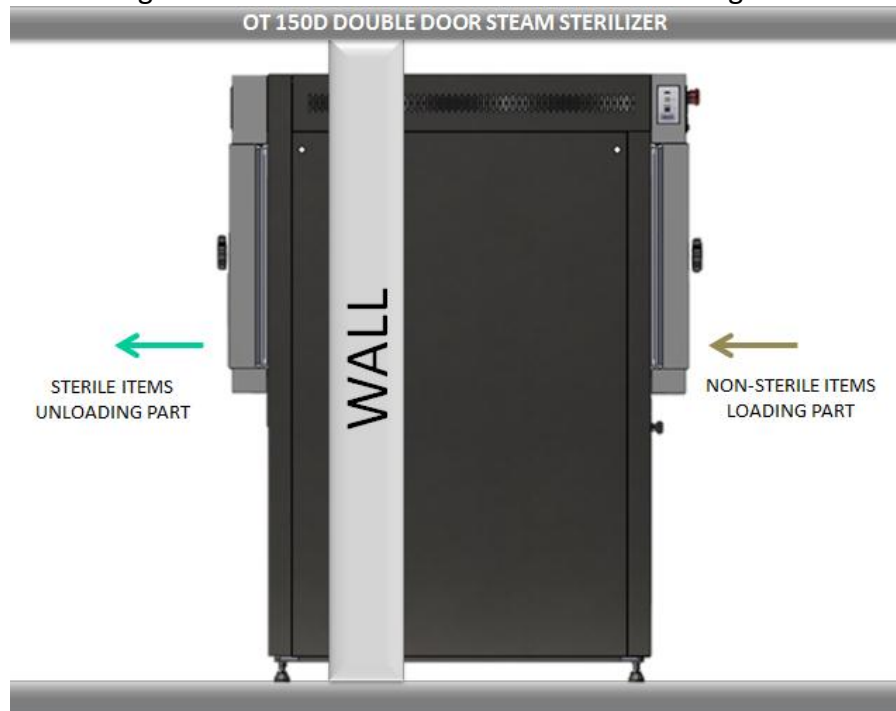

Figure 1
The steam sterilizer NC 150D is a double door sterilizer and installation should be handled as shown in Figure 1.
- The place where NC 150D would be installed should have two rooms as shown in Figure 1; one room for loading nonsterile items and one room for unloading sterile items.